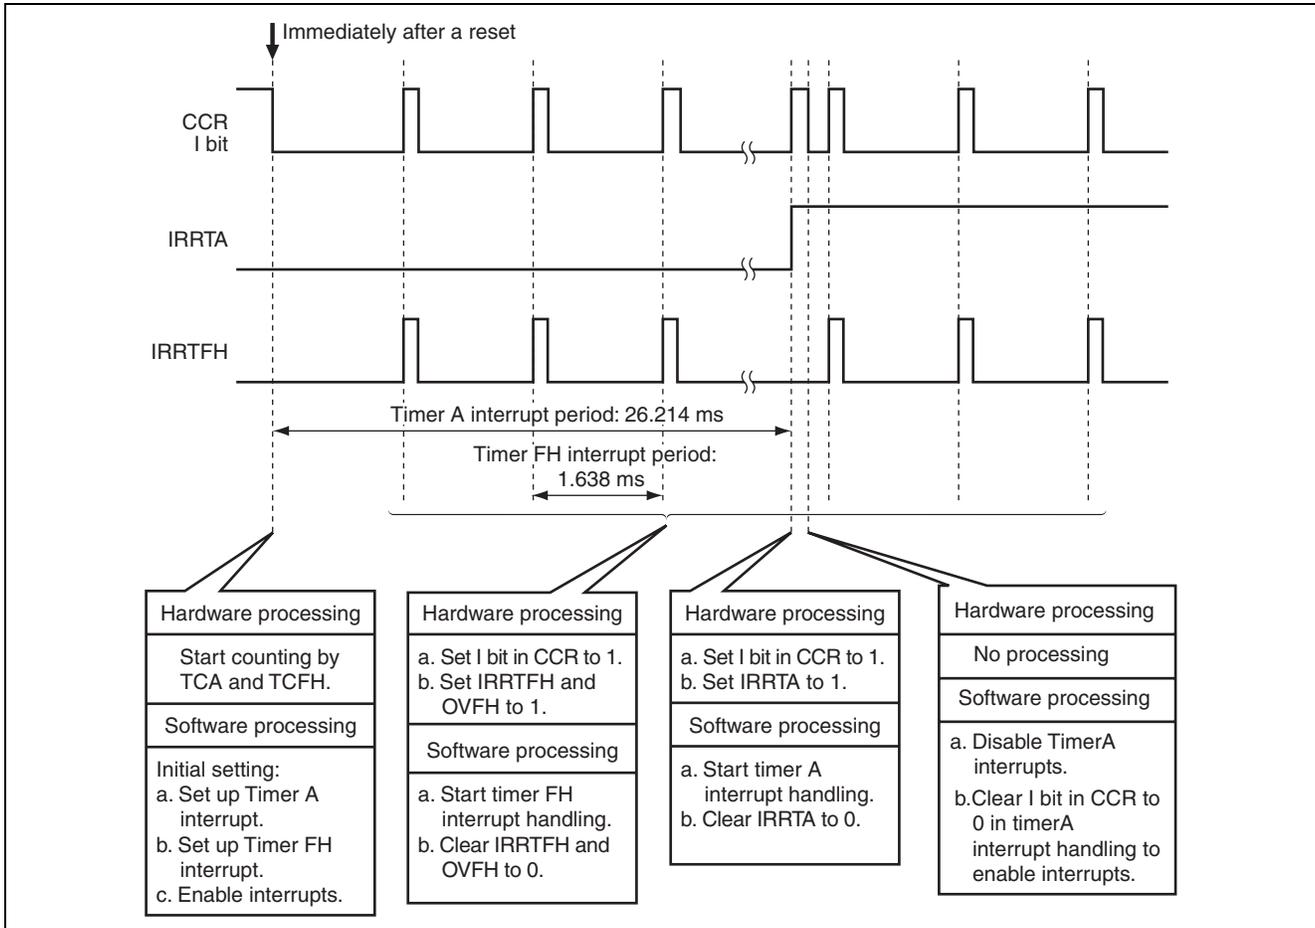

Figure 3.1 Operation Principle of Multiple-Interrupt Handling for Internal Interrupts
1. Figure 3.1 illustrates the operation of this sample task. Multiple-interrupt handling for internally generated interrupts is implemented through hardware and software processing as shown in the figure.